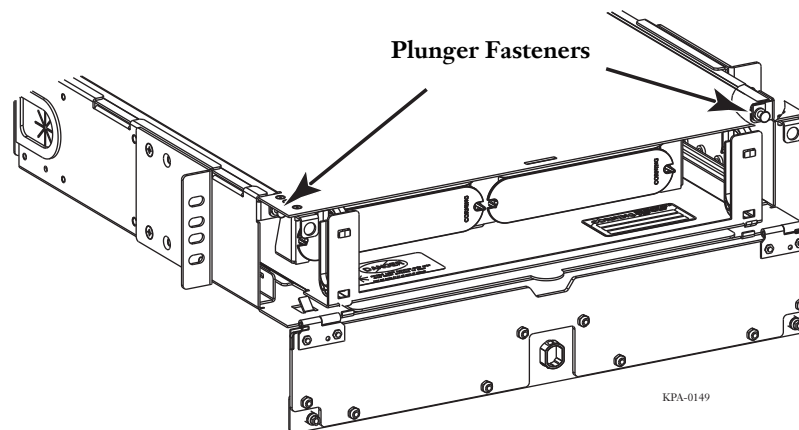

Figure 3 — Remove Cover
Step 2: Locate the plunger fasteners at the front of the unit under the housing cover and pull out to release the plungers (Figure 3).